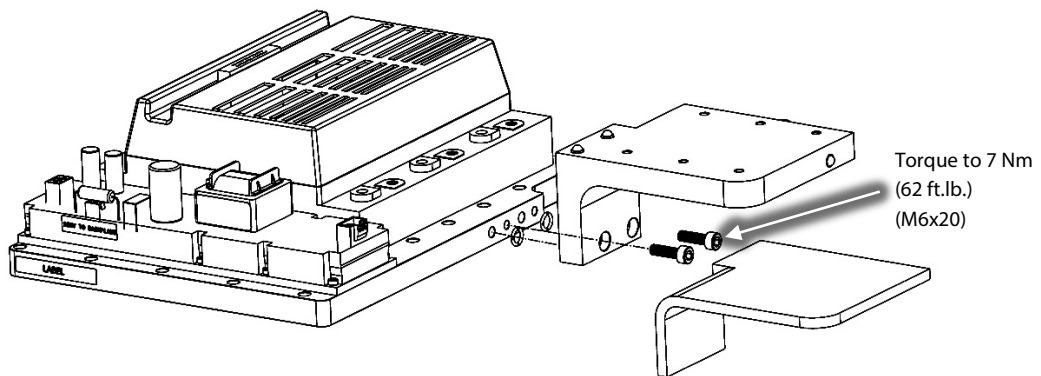

Figure 23 – SCR Cooling Manifold Installation
3. Reinstall the SCR Cooling Manifold to the Inverter Cooling Manifold torque the fasteners to 7 Nm (62 in.lb.). Refer to Figure 23 (SCR Cooling Manifold Installation).